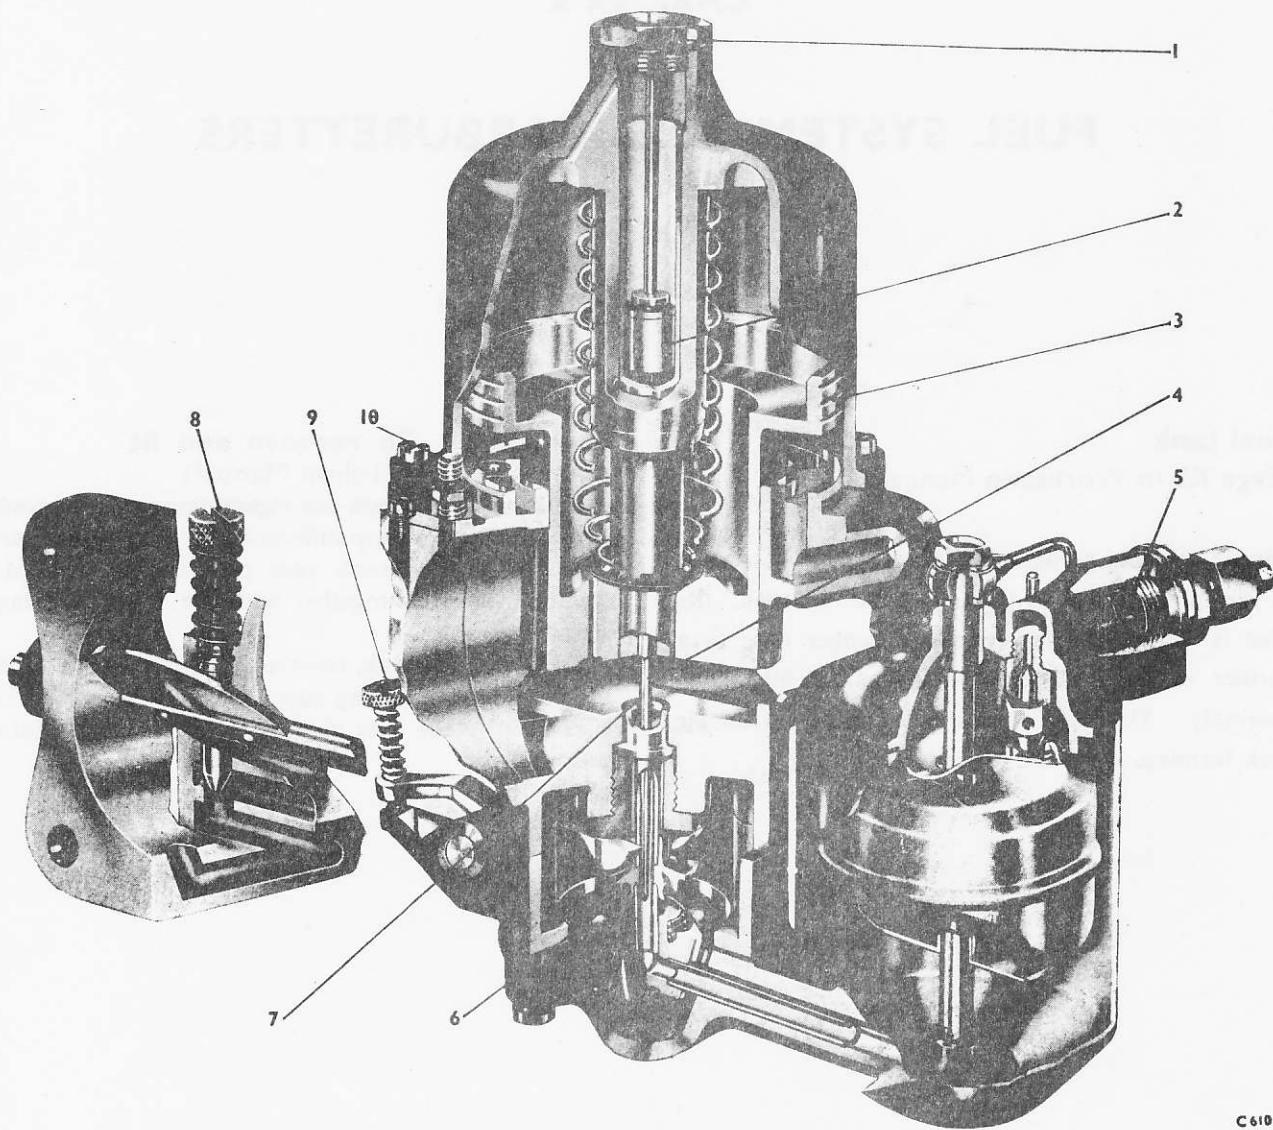

Fig. K1 (S) Cut-away view of one carburettor
Apart from the increased choke bore and resultant general increase in size, a tapping has been provided immediately above the butterfly closed position on the 'A' bank carburetter. This tapping, shown in Figure K1 (S), is provided to operate the vacuum timing control fitted to the distributor.